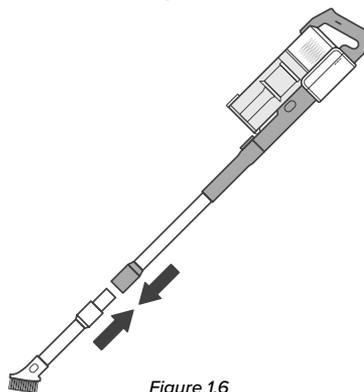

Figure 1.6
3. Optionally, leave the stick attached to the vacuum body and press the Vacuum Head Release Button to remove the vacuum head. Then, attach the nozzle attachment to the end of the stick. **[Figure 1.6]**